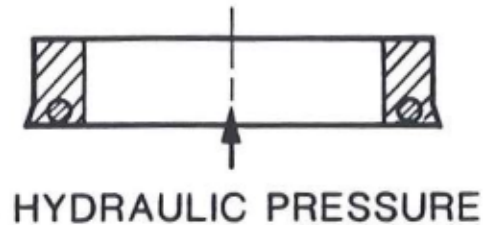

Figure 6-8. Orientation of Polymyte Seal (Pull Type Shown)
- 2). Thoroughly lubricate the polymyte seal with petroleum jelly and slide it onto the piston. The U-cup of the seal must face the pressure inlet (see Figure 6-8). **Proper seal orientation is critical.**